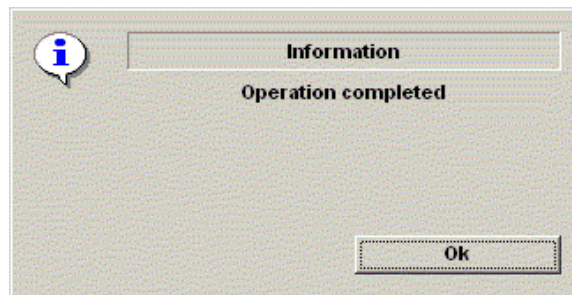

Figure 4-37 Archive Operation Complete Message
- 9.) Press OK. An in-progress message appears. The archive operation is complete when you receive the message shown in Figure 4-37.